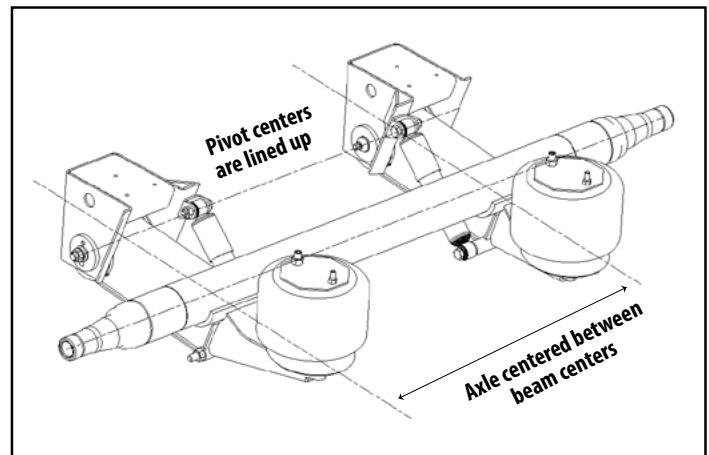

Figure 3.
1. Center the axle assembly between beam centers (Figure 3).